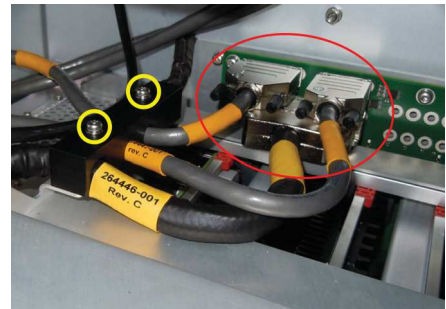

Fig. 7.23 Support, connectors
- 10 Take out the Frame Assy. Remove the cable support using Torx T20 screwdriver (tools 1/8) to remove two screws as indicated with yellow circles in Fig. 7.23 (p. 130). Disconnect the three connectors within the red ellipse in Fig. 7.23 (p. 130) and remove the three cables.
- 11 Connect the three cables on the new Frame Assy and fix them with the cable support (Fig. 7.23 (p. 130)). Place the new Frame Assy in RxTx.